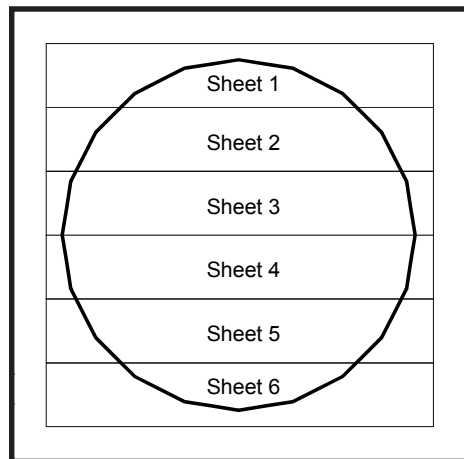

Figure 1
**Step 3:** Position the Pool Pad pieces next to each other, on a clean surface such as a garage floor or driveway, as shown in figure 1. The number of pieces varies with the size of the pool.